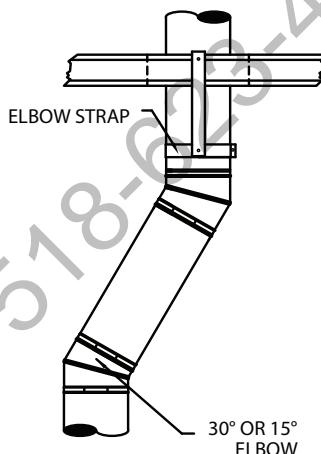

Figure 17
1. Attach Elbows: Attach Elbow to Chimney Section or other Elbow by mating the male and female ends with each other and using the four (4) sheet metal screws provided. Attach one Elbow to the Chimney Section below, and align it for the offset. Determine the required offset length and attach an appropriate length (or lengths) of Chimney Section(s) above the Elbow. Attach the second Elbow above the Chimney Section to complete the offset (**Fig. 17**).